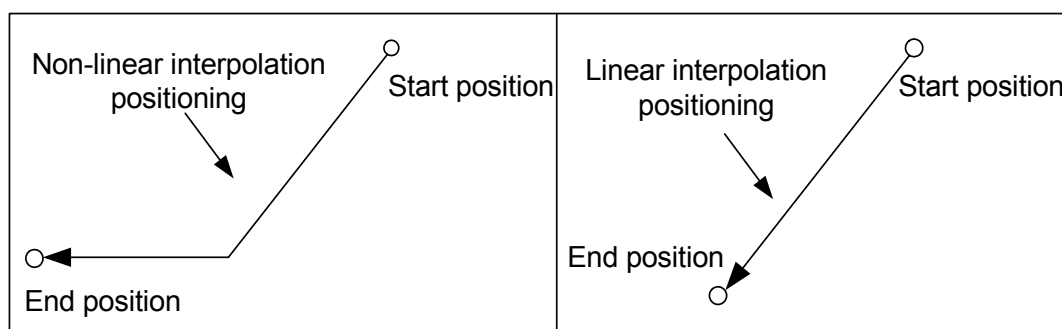

Fig. 4-2-1-1
**Function:** G00 instruction moves the tool to the position in the workpiece system specified with the absolute or an incremental instruction at a rapid traverse speed. Whether the absolute or incremental instruction is used is set by bit parameter **NO:12#1**. Select one of the following two tool paths (Fig. 4-2-1-1).